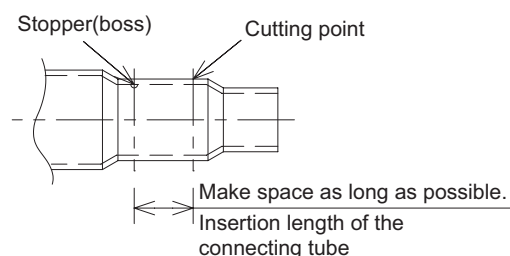

Fig. 2-301
- Cut off as far away from stopper as possible. (Fig. 2-301)